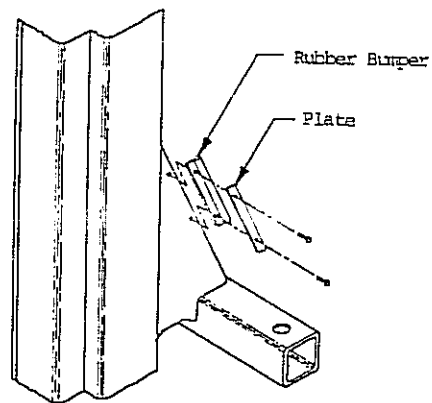

FIG. 14
20. DOOR BUMPER INSTALLATION: Determine direction of vehicle approach. Install door bumpers on approach side of lifting carriages with 1/4"x3/4" bolts. See Fig. 14.